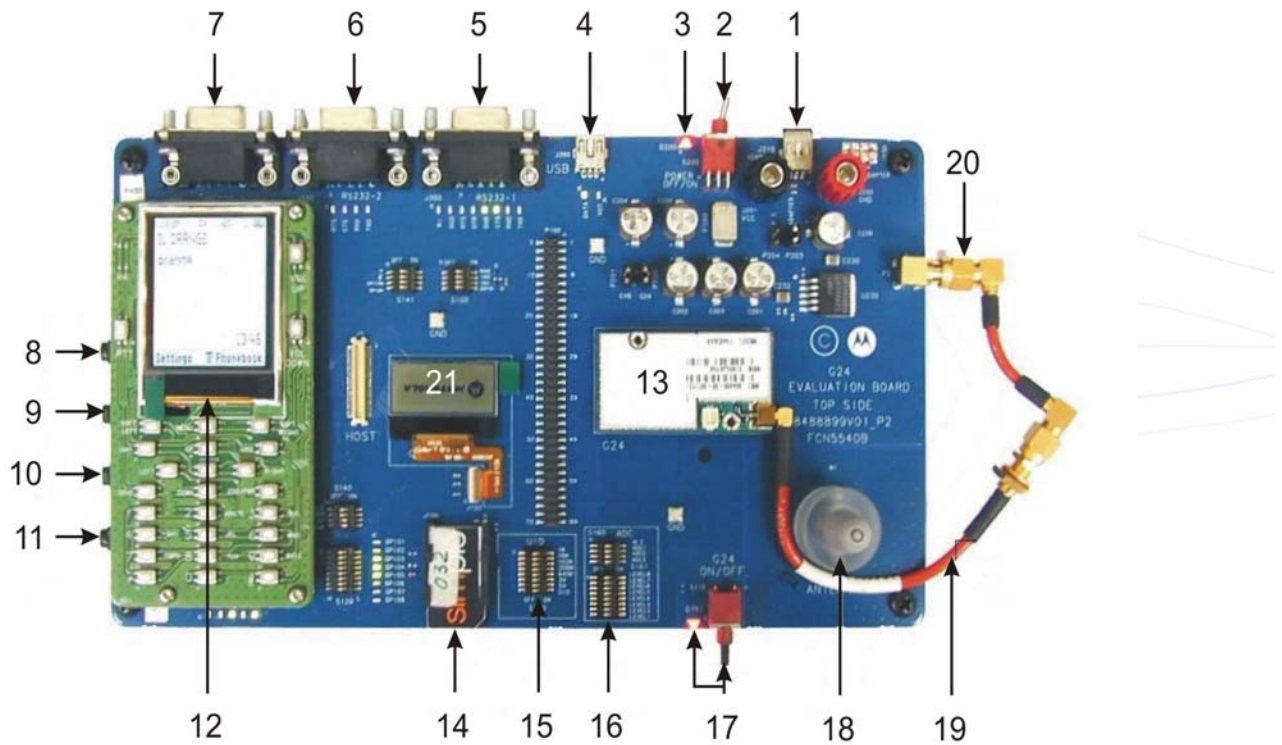

Figure 2-1: Evaluation Board - Major Components
Figure 2-1 shows a G24 unit, display and SIM card mounted on the evaluation board (EVB) and other major EVB components. Table 2-1 gives a description of the components.
**Note:** The numbers in parenthesis refer to the numbers shown in Figure 2-1.
1. Connect the supplied antenna stub to the EVB antenna base (18).
2. Connect the supplied antenna cable to the EVB SMA antenna connector (20).